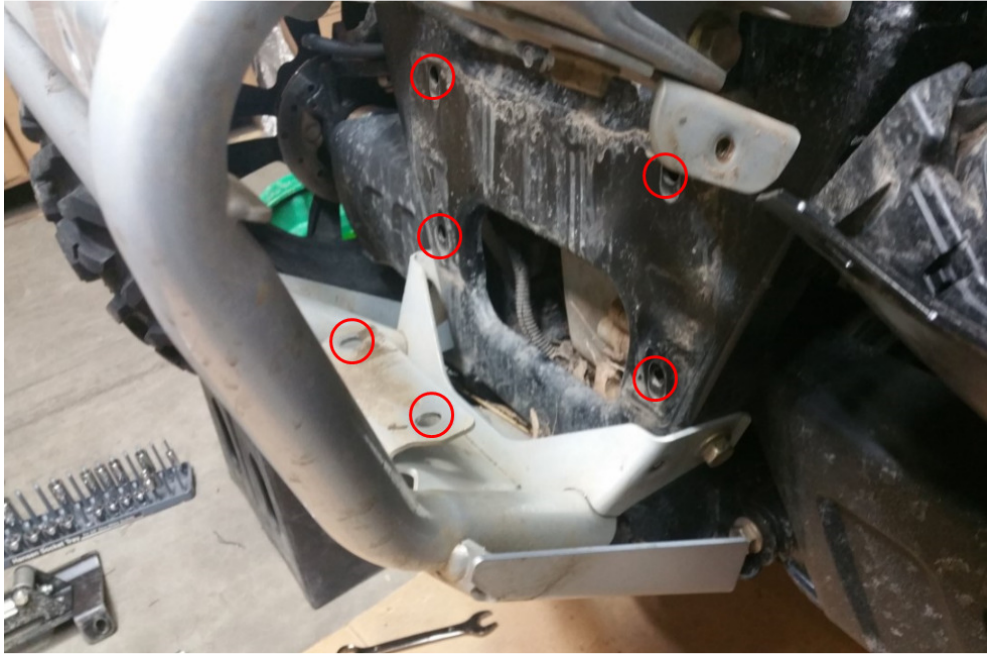

Figure 4
- 4) Use the six (6) 3/8 x 1" Serrated Flange Bolts and six (6) 3/8" Serrated Flange Nuts to secure the MA11991 Winch Mount to the frame. See Figure 4 and 5.